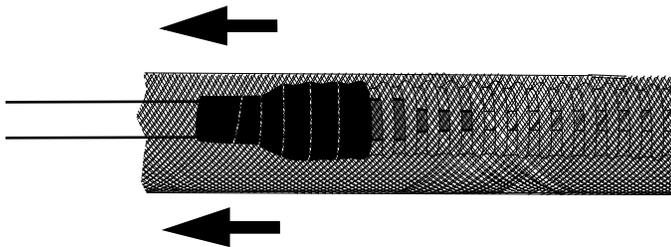

Figure 4
4.5 Slide the mesh over the corrugated tubing until it extends several inches over the cable jacket (Figure 4).